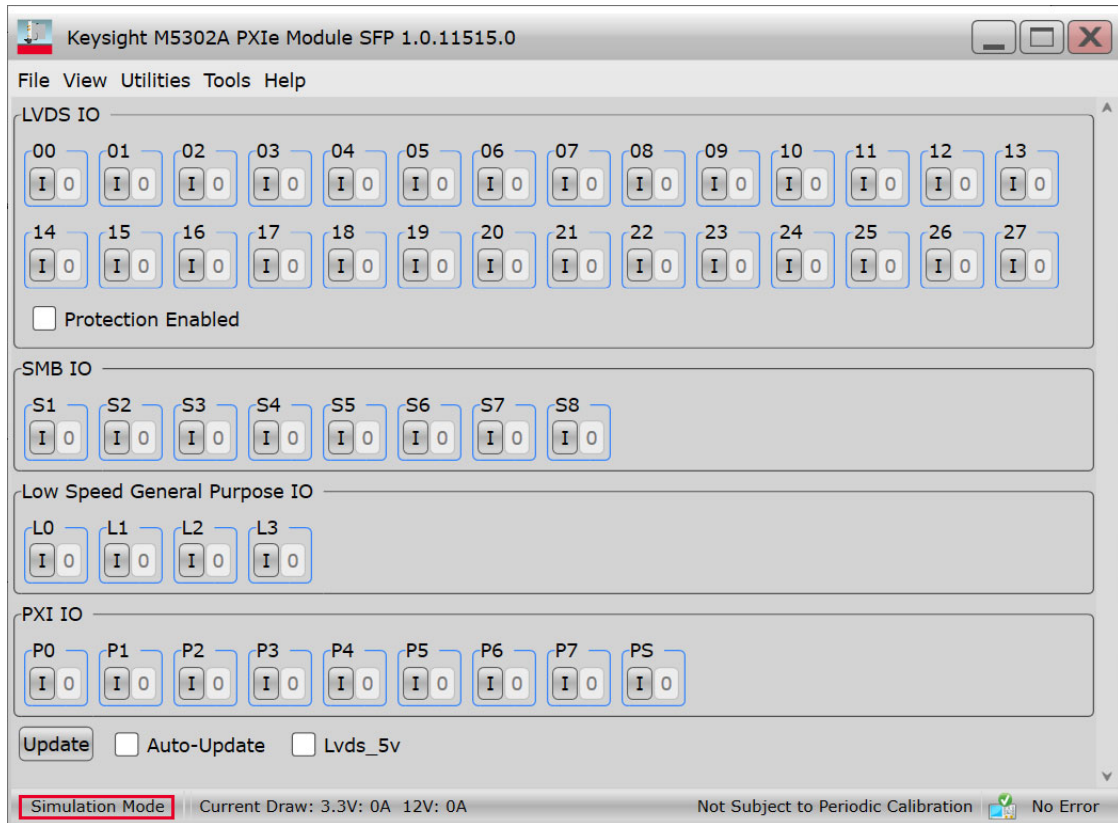

Figure 36 “Simulation Mode” in the status bar on the main window
- ‘Simulation mode’ enabled—This is the default mode of SFP operation. The **Simulation Mode** check box is selected by default and the **Simulate** button is displayed on the window. As the name indicates, this mode is used for offline SFP operations. In this mode, even if you select an active module (which is connected to a chassis in powered on state), toggling the SFP controls does not affect the signal state on the module. The status bar on the main window shows ‘Simulation Mode’, as shown in Figure 36.